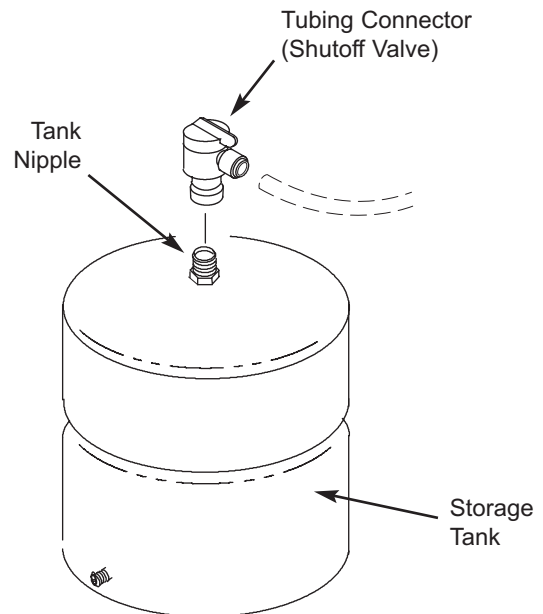

FIG. 13
1. Apply thread sealing tape (2 wraps clockwise) to the threads on the nipple at the top of the tank. See Fig 13.
2. Locate the tubing connector (shutoff valve). See Fig. 13. Tighten the tubing connector onto the tank nipple 7-8 full turns, being careful not to cross thread or overtighten.
5. Connect yellow tubing to tank connector. See Figs. 13 and 22.